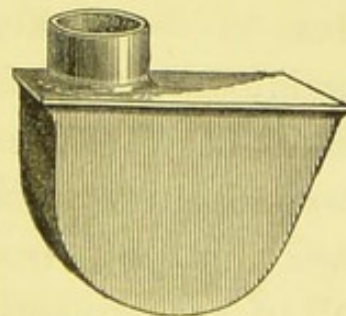

FIG. 4.
*D-trap.*—This old-fashioned trap, Fig. 4, is a great favourite among plumbers, and is in very general use. It is difficult to understand why plumbers should like this trap, especially for water-closet uses, except it is that having so much to do with them—as undertakers with dead